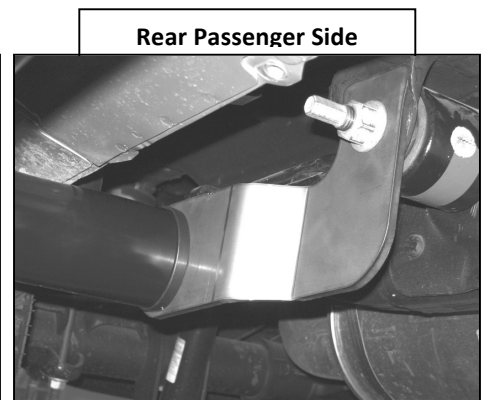

Figure 3
4. From underside of vehicle, remove the existing passenger side front leaf spring mounting bolt nut (Figure 3).